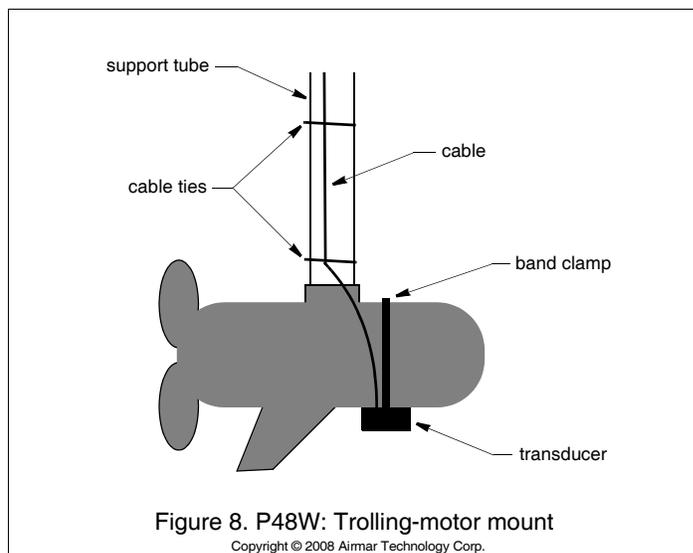

Figure 8. P48W: Trolling-motor mount
- Band clamp (trolling-motor mount) Measure before purchasing (Figure 8)
3. Wrap the band clamp around the motor case with the transducer located on the underside (Figure 8). Tighten the screw on the band clamp.